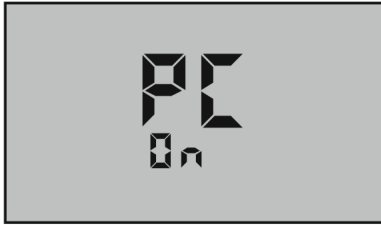

Figure 31
3. Then press the  key. "PC On" will be displayed (see Figure 31).